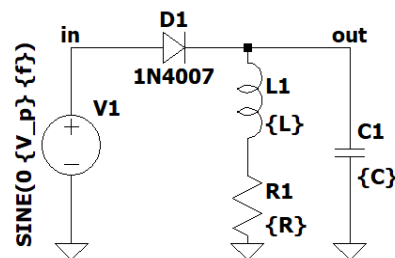

Figure 2.1 Half Wave Rectifier with different loads
1. Connect the Circuit as shown in Figure 2.1.